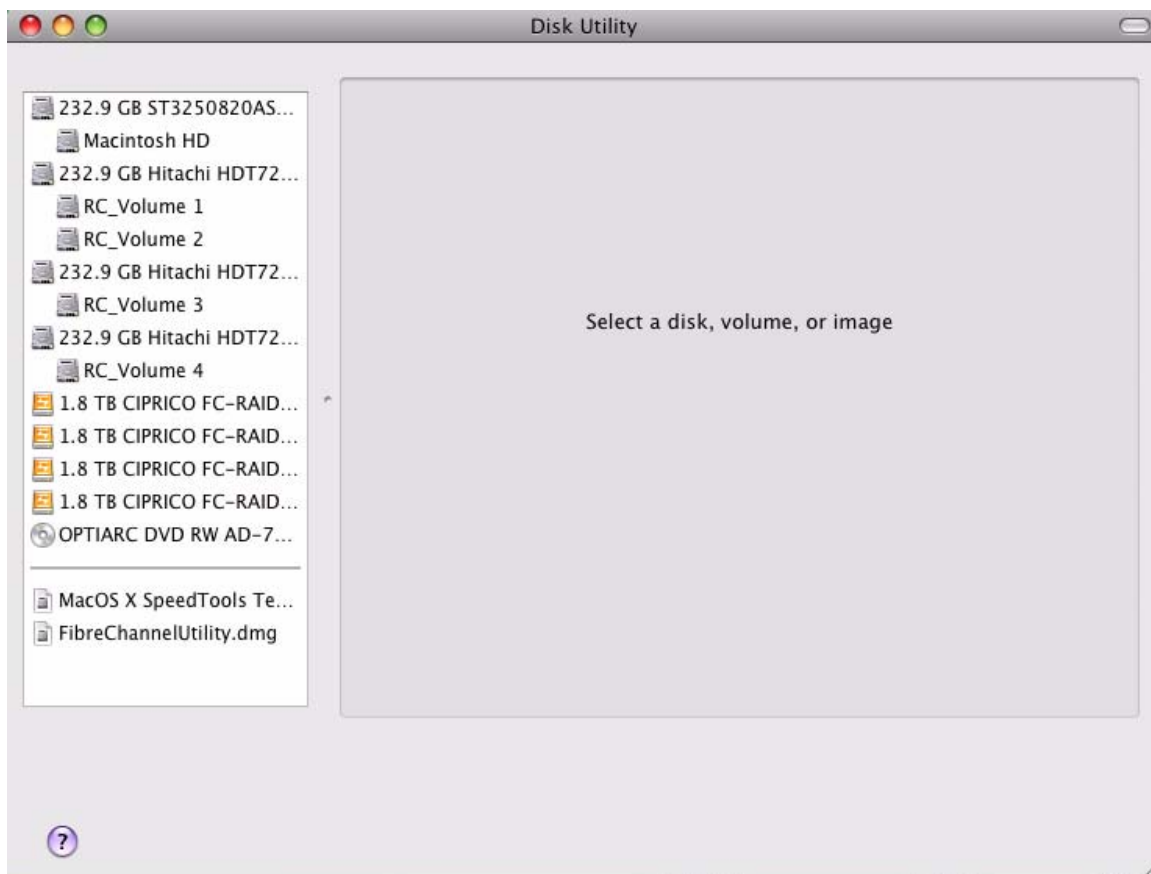

FIGURE 6-10. The Apple Disk Utility Screen, Prior to Clicking on the Upper Disk Icon.
3. The *Apple Disk Utility* screen appears. In the example below, icons of the four CIPRICO FC-RAID drives of the MV 4440 are shown in the left side. See Figure 6-10.